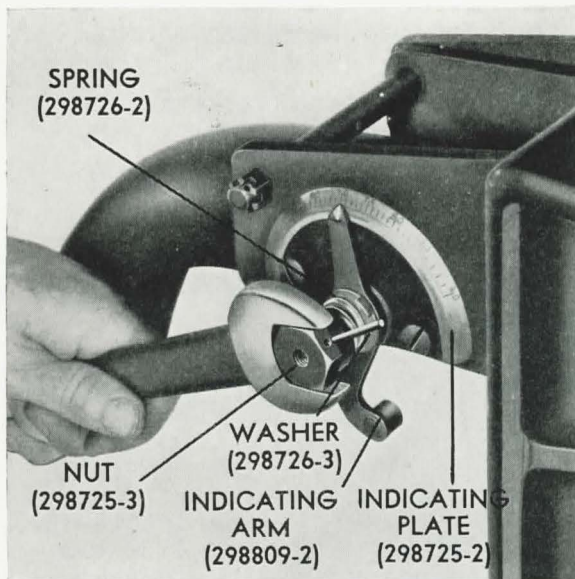
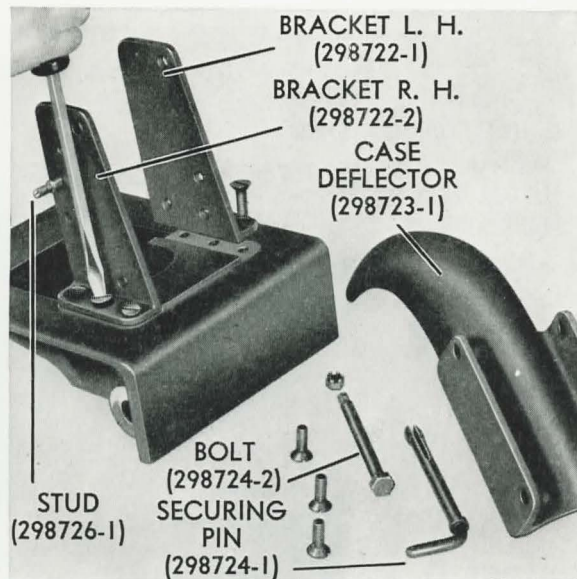

Figure 83
Figure 84
- (1) Remove the through bolt.
- (2) Remove the taper pin, hinge pin, and the door assembly.The door must be partly closed in order to remove the taper pin.
- b. Remove the recoil indicator, **Figure 83**.
- (1) Remove the taper pin, nut, spring, washer and the indicating arm.
- (2) Remove the retaining screws, the washer and the indicating plate, and the stud.
- c. Remove the case deflector and brackets, **Figure 84**.
- (1) Remove the cotter pin, castellated nut, hinge bolt, securing pin and the deflector.
- (2) Remove the bracket retaining screws and the brackets.